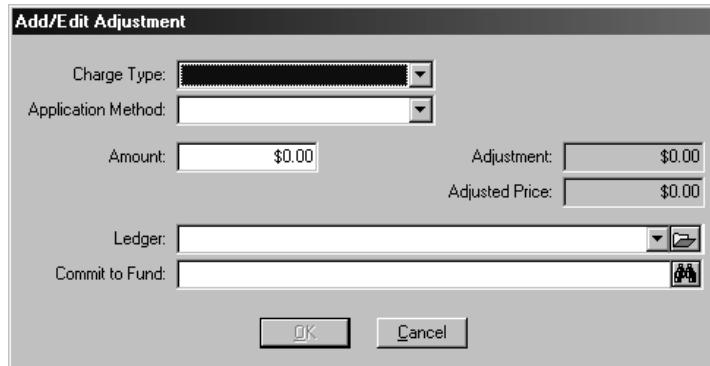

Figure 6-52. Add/Edit Adjustment dialog box
- Result: The **Add/Edit Adjustment** dialog box opens (see Figure 6-52).